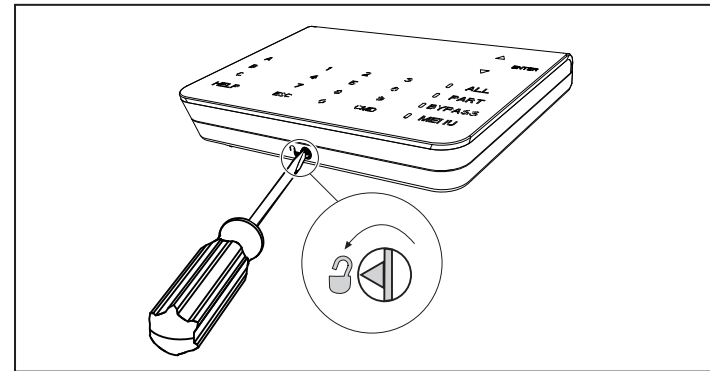

Figure 2.1: Unlocking the keypad
1. Unlock the keypad by turning the lock counter-clockwise. Refer to *Figure 2.1*.
- To remove power to the keypad, remove the keypad from the base. Refer to *Figures 2.1* and *2.2*.